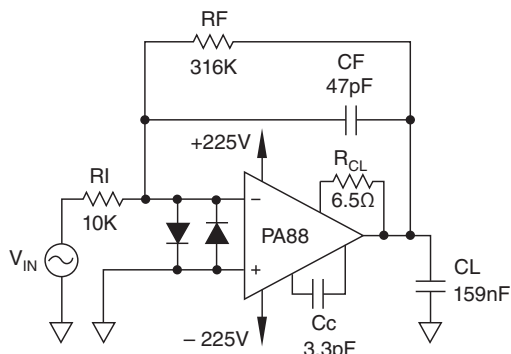
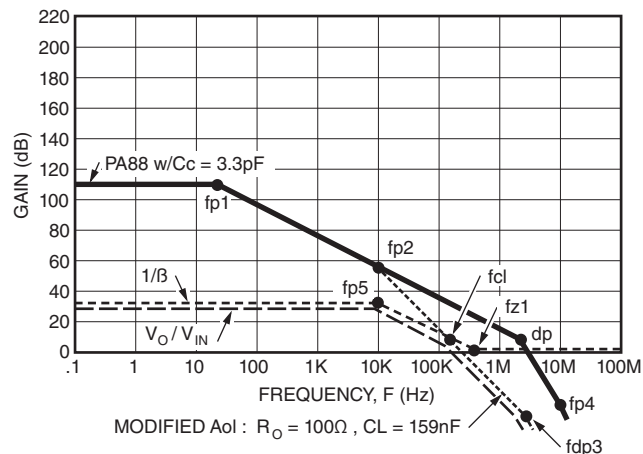

FIGURE 26. FEEDBACK ZERO COMPENSATION FOR CL
FIGURE 27. FEEDBACK ZERO COMPENSATION FOR CL
Figure 26 illustrates a circuit utilizing Feedback Zero Compensation for stability when driving a capacitive load. Figure 27 is our magnitude plot to work with for stability. The following procedure will ensure a logical approach to optimize stability:
The higher frequency poles of the unmodified PA88 Aol must be added into the modified Aol as shown in Figure 26.
fcl such that if the modified Aol plot in the real world moves to the left towards lower frequency we will not be back at a 40 dB per decade rate of closure. Note in Figure 27 that the $1/\beta$ plot has fp5 and fz1. The feedback network continues to feed back output voltage beyond fcl until we reach 0 dB. Then the $1/\beta$ plot flattens out at 0 dB. It is important to include fz1 since it will be a pole in our open loop phase check
STEP 5: Once you have chosen CF to get the fp_5 you want you automatically set fz_1 . fz_1 can be gotten graphically from the $1/\beta$ plot. For those of you who want exact breakpoints, here are the formulae for the $1/\beta$ plot in Figure 27.